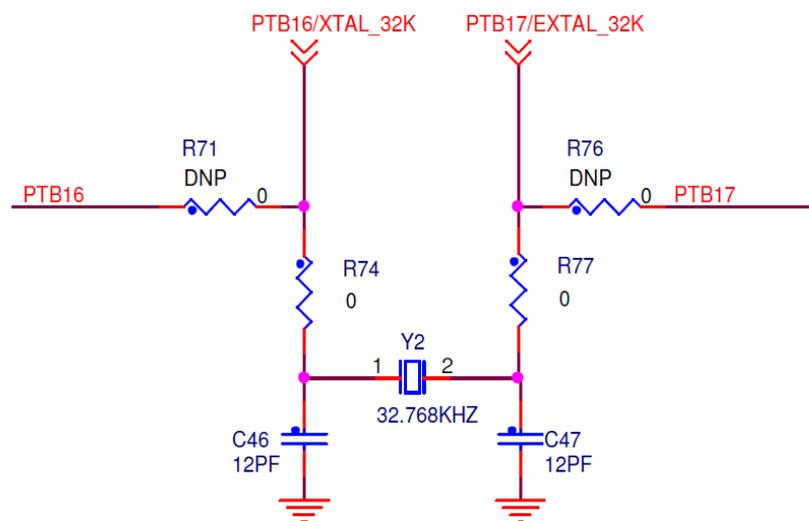

Figure 8. FRDM-KW40Z board's optional 32.768 kHz oscillator circuit
- Optional 32.768 kHz Crystal Oscillator: Provision is also made for a secondary 32.768 kHz crystal Y2 (see Figure 8). This oscillator can be used for a low power accurate time base.